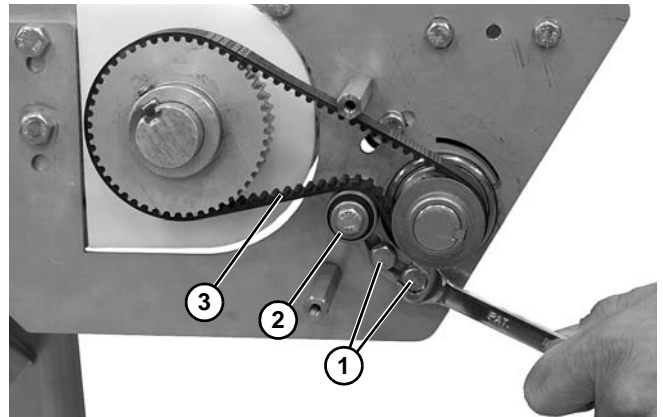

Figure 60
2. Loosen two hex head screws (**Figure 60, item 1**) holding tensioning bearing (**Figure 60, item 2**) against timing belt (**Figure 60, item 3**).